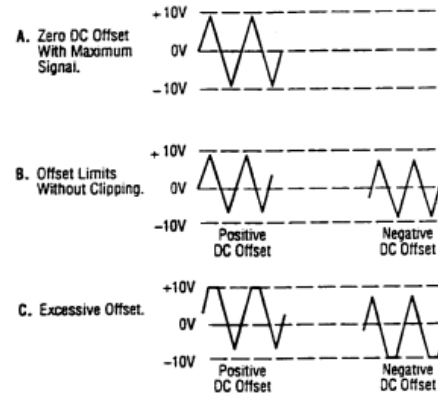

Figure 3. Use of DC OFFSET Control
7. A superimposed DC component can be added to the output signal by engaging the **DC OFFSET** switch (14) to enable operation of the **DC OFFSET** control (5). Rotation of this control adds a positive or negative DC component to the output signal. The DC component introduced is independent of the **OUTPUT LEVEL** control and can be varied by ± 10 volts open circuited or ± 5 volts into 50Ω . The DC Offset does not affect the **TTL/CMOS** output jack. The effect of DC OFFSET is shown in Fig. 3.
- Remember that the output signal swing of the generator is limited to ± 10 volts open circuited or ± 5 volts into 50Ω , and applies to the combined peak-to-peak signal and DC offset. Clipping occurs slightly above these levels. Fig. 3 illustrates the various operating conditions encountered when using the DC offset. If the desired output signal is large or if a large DC offset is required, an oscilloscope should be used to make sure that the desired signal is obtained without undesirable clipping.